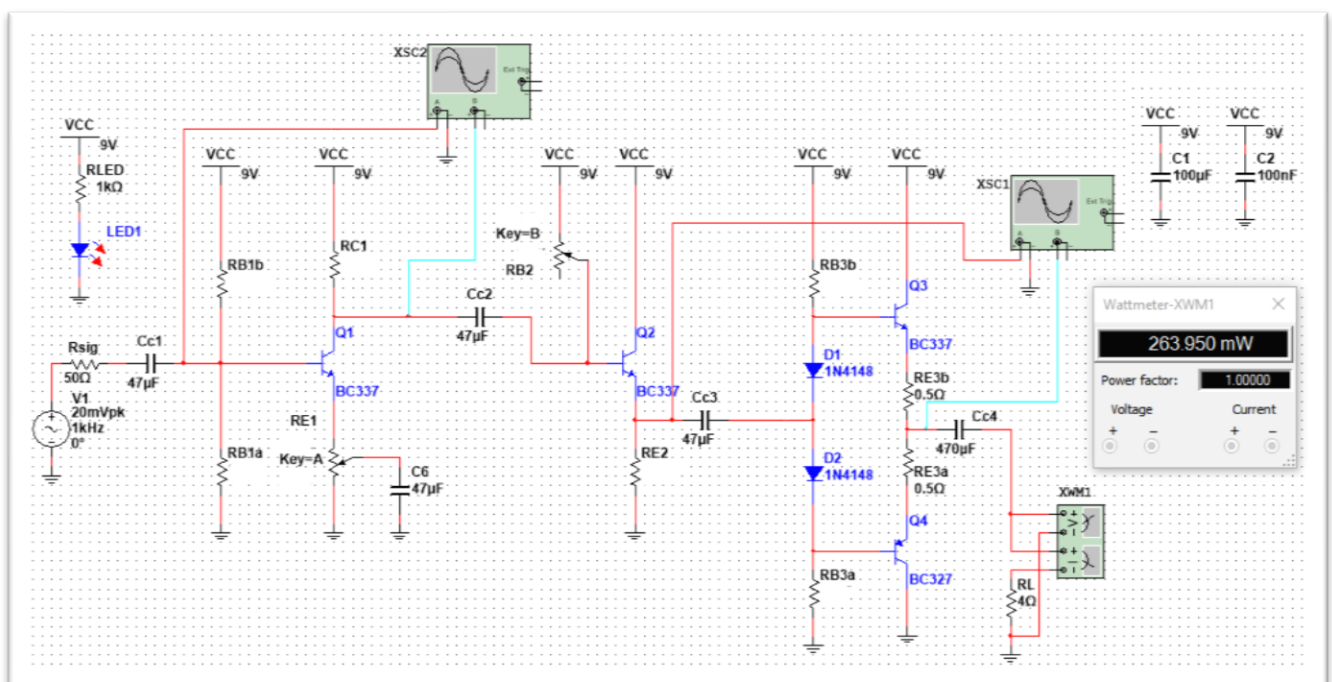

Figure 2 Amplifier schematic in Multisim. The resistor values are not shown because you have to do the design by yourself!
The schematic of the amplifier drawn in Multisim is shown in Figure 2. In this section, we will explain the different components of the system, **starting from the speaker and going backward**. **Note that for all the values given/computed a deviation of about 10% is usually acceptable.** **Also note that the you do not have to exactly follow the design procedure explained below. You can make changes, BUT you must explain and justify them very well.**
- In Multisim, connect a wattmeter across the speaker as shown in Figure 2. The wattmeter will display the power delivered to the speaker.
- The amplifier that delivers "high power" to the load is called a power amplifier (PA).
- A very popular power amplifier for audio applications is the push-pull class AB power amplifier, which is the one used in Figure 2.
- In Multisim, we will model the smart phone as a 20mVpk signal source with 50 $\Omega$  output resistance and 1kHz frequency as shown in Figure 2. You can try to vary the amplitude and adjust the volume using  $R_{E1}$ .
- Note that there are decoupling capacitors connected to the supply in Figure 2. These capacitors filter out any noise or spikes.
- The LED shown in Figure 2 is a nice way to show that your power supply is ON.
- The condenser mic signal is also very weak (few mV). Thus, you will need additional amplification stage. The additional stage can be similar to the CE first stage shown in Figure 2, but try to get higher input impedance to avoid loading.
- For Q3 and Q4 you need a transistor that can handle higher current like the one used in Figure 2.
- a. The schematic with Wattmeter snapshot showing  $> 250\text{mW}$  of power as in Figure 2.